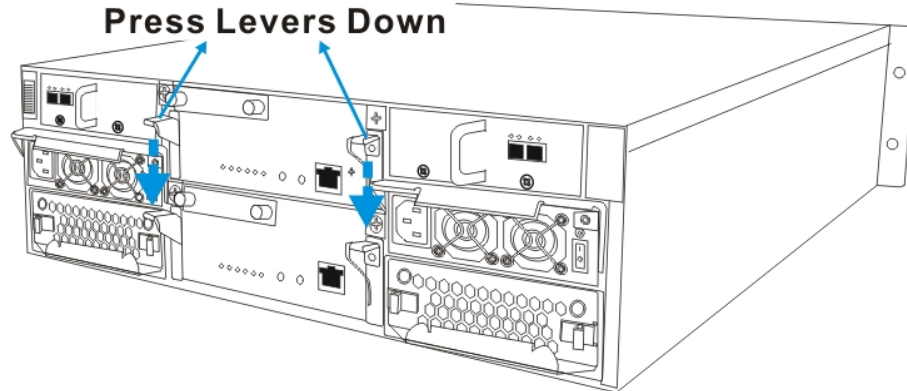

Fig. 2.2 Press Down the Controller Levers
4. Remove the controller module by pressing down the two (2) levers at the back of the controller module. The controller module will automatically be eased out of the controller module bay. (See Figure 2.2.)